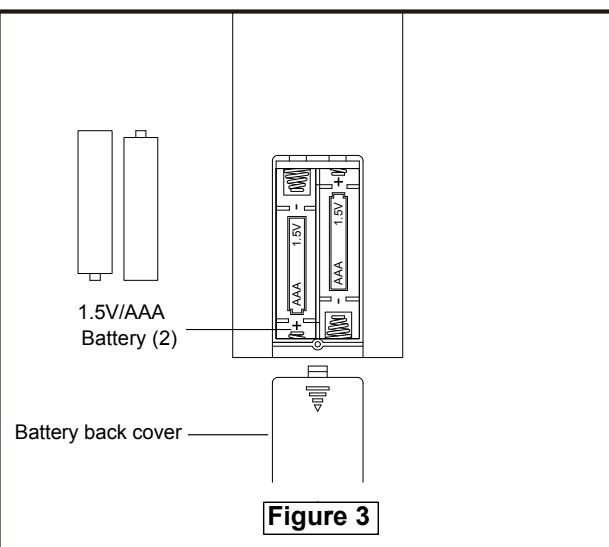

Figure 3
3. To make the fan operational, install the two AAA batteries included (If not used for long periods of time, remove battery to prevent damage to transmitter). Store the remote away from excessive heat or damp. (Figure 3)